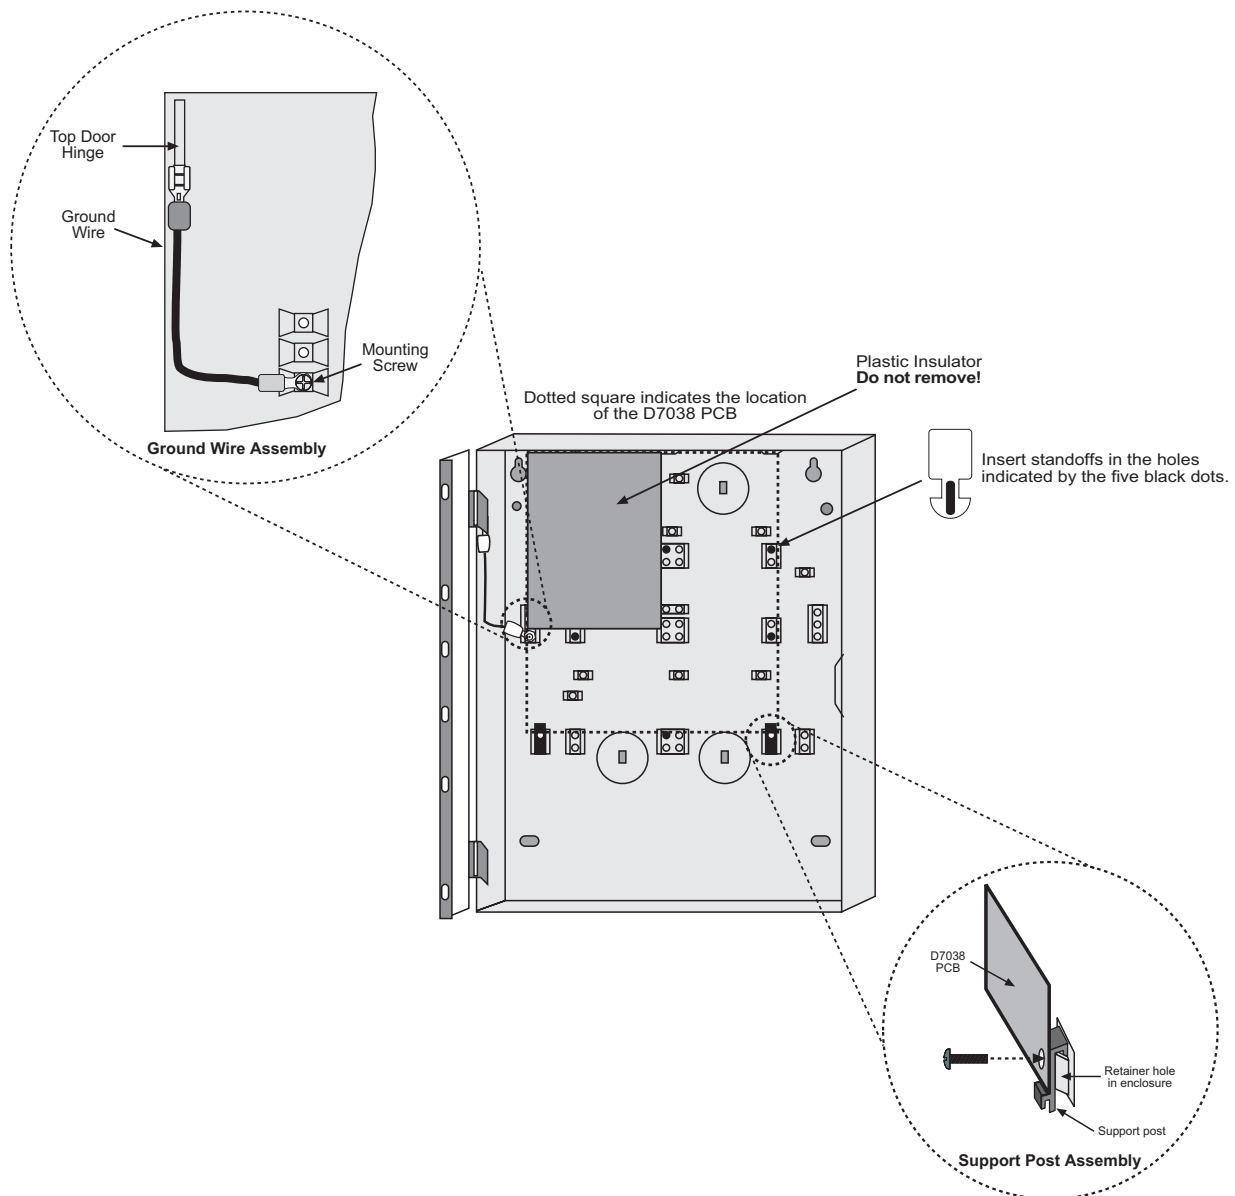

Figure 2: D7038 Enclosure and Board Installation
See *Figure 2* on page 10 for details.
2. Insert the two support posts into the control retainer holes as shown in *Figure 2*.